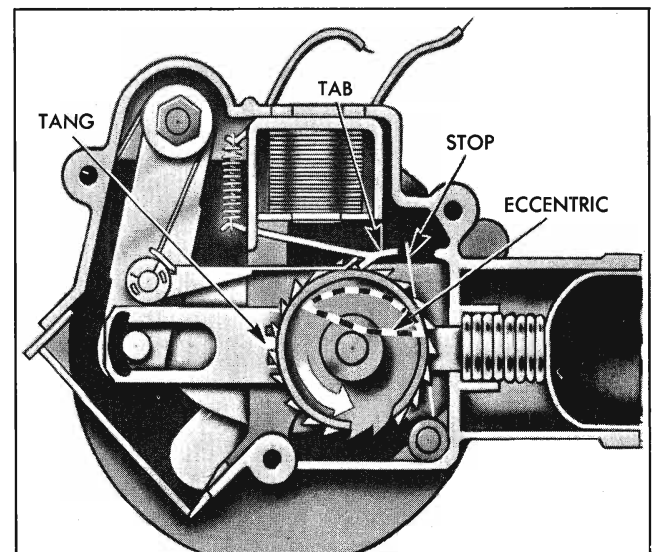

Fig. 11-110 Pump Stop
1. Connect 12 volt supply to one washer terminal and ground the other. Manually rotate the rotor cam and observe if relay armature pulls in (Fig. 11-110). Failure of relay to pull in indicates an open relay coil or poor solder connections.
2. If pump is in idling position, release it as follows: Push relay armature toward relay coil so that wire stop spring engages it (Fig. 11-110) then manually rotate nylon rotor cam until pumping action can be felt. The bellows should now extend partially out of the housing.